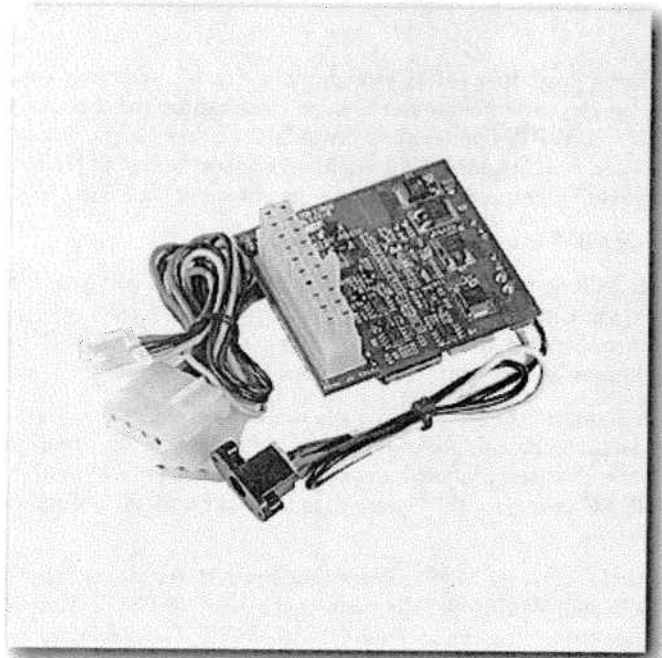

FIGURE 13-2: Mini-Box power supply.
- The Mini-Box PW series AC power supply, for when the computer is in your car, shown in Figure 13-2 (~\$50). Make sure you purchase the one appropriate model for your processor and motherboard type (see www.mini-box.com for details).